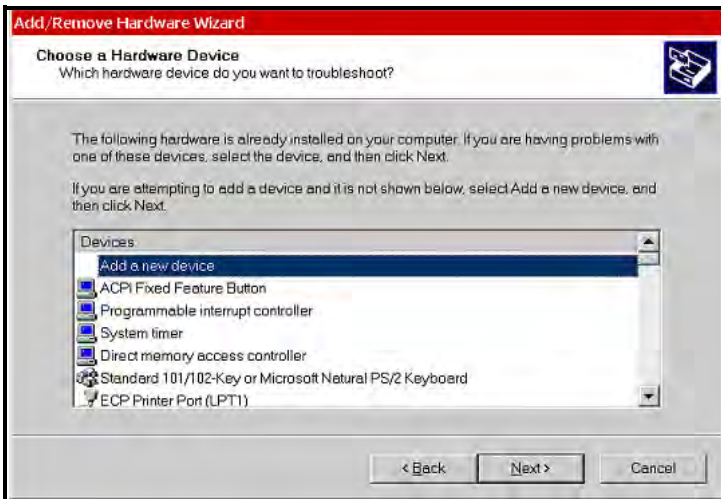

Figure 49: Choose a Hardware Device Screen
5. When the search finishes, you will see the dialog screen as in Figure 49. Choose “Add a new device,” and click Next.